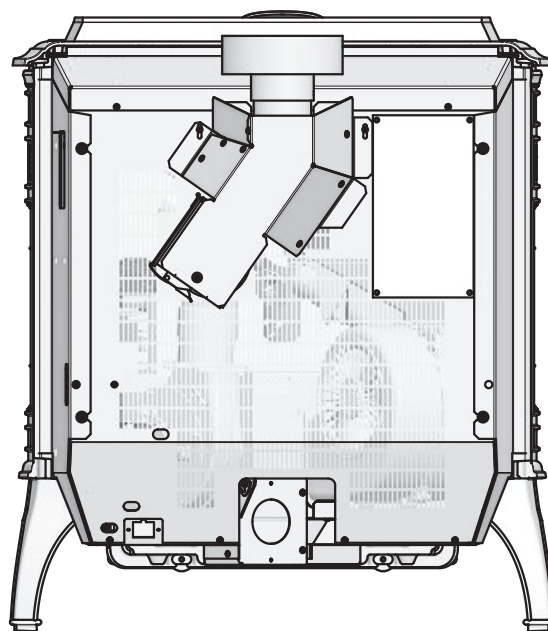

Figure 21.2
3. Align slot on left of adapter with hole in the back of the appliance and secure with screw. You may drill out the hole using #26 drill bit provided but only if needed (**Figure 21.2**).
7. To clean top vent adapter, open clean-out cover and remove any debris build-up (**Figure 21.2**).